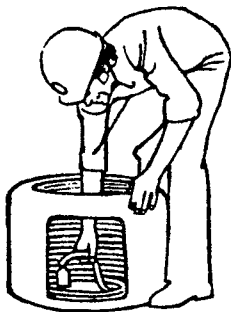

Fig. 2-1 Procedure to Uncoil New Manila
2. Uncoiling. The biggest problem faced when opening a new coil of rope is deciding which side of the coil the bitter end should be drawn through. If properly packaged, the rope will reeve from the center of the coil and lie reasonably free of kinks. The following procedure should remove some of the mystery of proper uncoiling: First, remember that manila must be coiled in a clockwise direction and uncoiled in a counterclockwise direction. Now look into the center of the coil and locate the bitter end. It should be marked at the rope walk with a tag (which frequently becomes lost). Study the direction in which the last few feet of rope are wound and visualize it unwinding. If you were to reach into the center of the coil and pull the bitter-end towards you would it unwind in a counterclockwise direction? If not, turn the coil so it will. This is the key; as the end of the rope is pulled out it must reeve off the coil in a counterclockwise direction motion. (See **Figure 2-1.**)